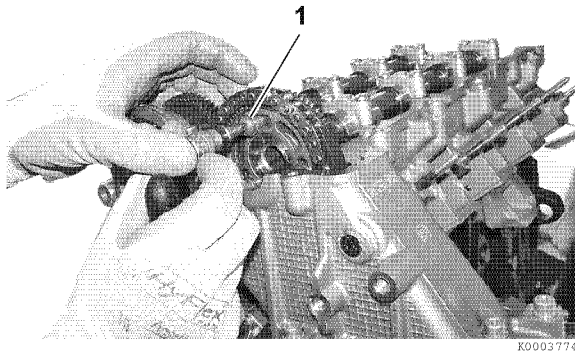

Figure 5-91
6. Remove one bolt (1, **Figure 5-91**).